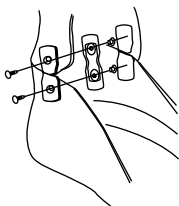

Fig. 8
8. Insert the MI ankle joints and secure with metal screws provided. The screws should not protrude inside the AFO. (Fig.8)